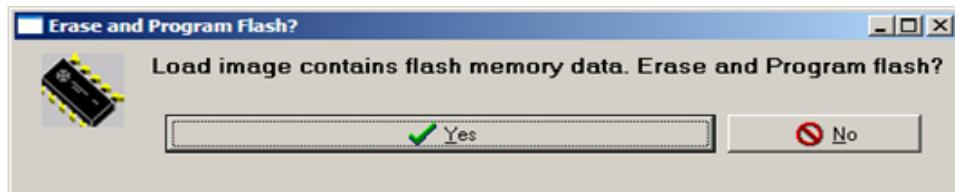

Figure A-12. Erase and Program Flash pop-up
- The pop-up in Figure A-12 appears. Click on the **Yes** button to load the built image to the JM60 flash.